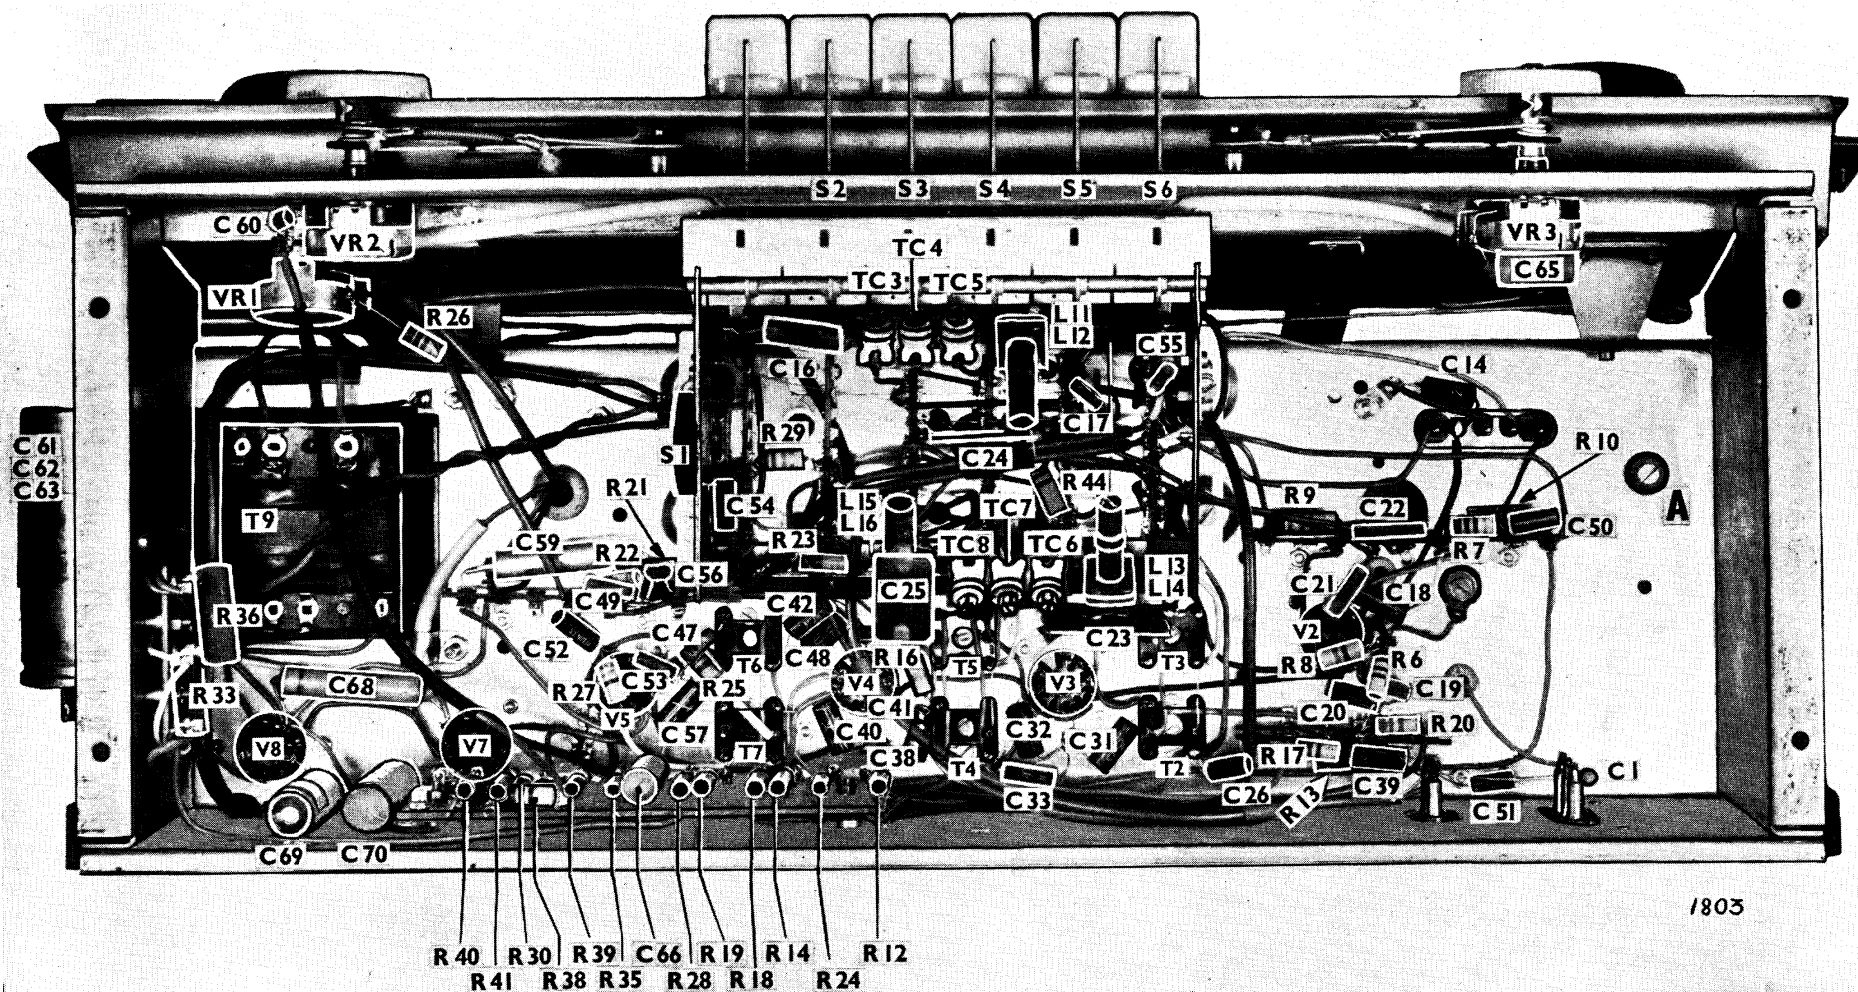

Fig. 4—Under View VHF.64
- (1) Unsolder the five connections to the box, see below.
- (2) Set the tuning capacitor to minimum and slip the cord loop from the brass boss.
- (3) Remove the three bolts holding the box to the bracket and remove the bolt (A fig. 4) from beneath the chassis.
(See fig. 4)